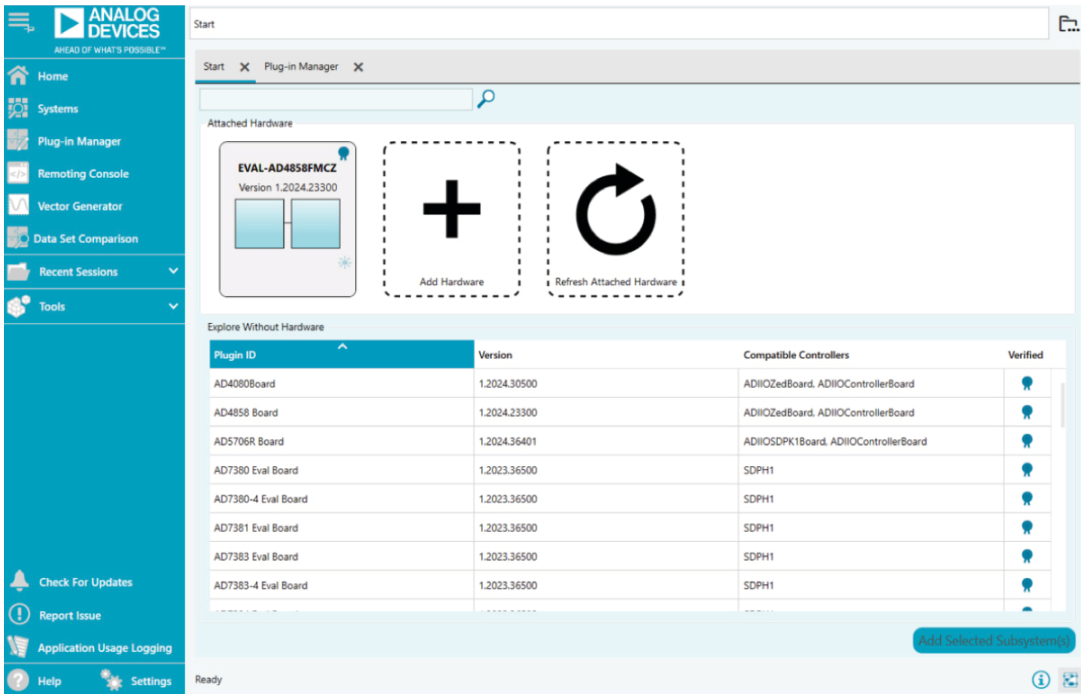

Figure 3. Attached Hardware View
- 7. Launch the **ACE Software**. The EVAL-AD4858FMCZ appears in the **ACE Start** in the **Attached Hardware** view, as shown in Figure 3.